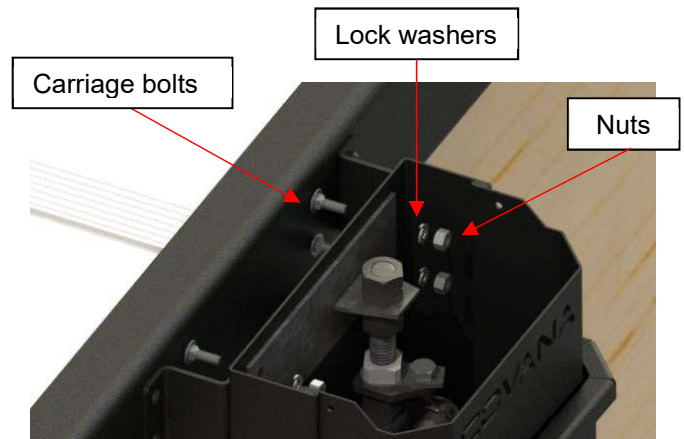

Figure 100
- 16) Slide the sleeves over the top of the jacks and fasten them using the 1/4"-20 x 3/4" carriage bolts at the top with 1/4" lock washers and 1/4-20 nuts. Use a 7/16" (11 mm) socket and spanner. Repeat this step for all four jacks (Figure 100).